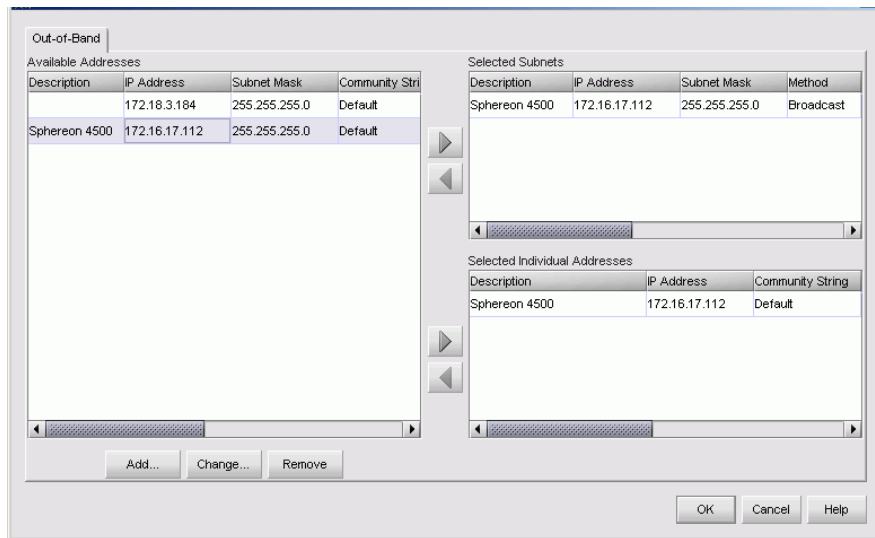

Figure 3-27 Discover Setup Dialog Box
- a. At the SAN management application (EFCM or SANavigator main window), select the *Setup* option from the *Discover* menu. The *Discover Setup* dialog box displays (Figure 3-27).
- d. At the SAN management application main window, select the *Setup* option from the *Discover* menu. The *Discover Setup* dialog box displays (Figure 3-27).